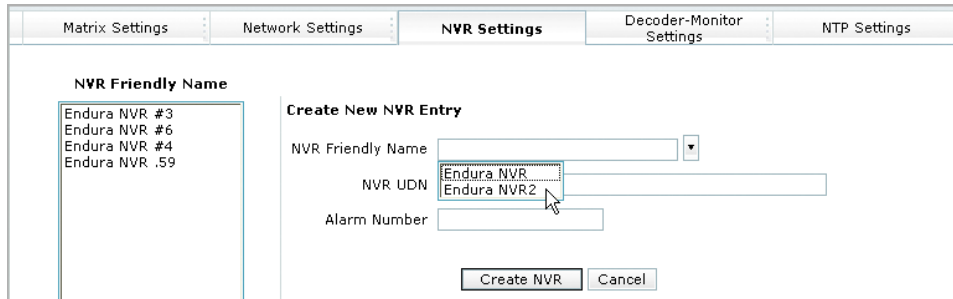

Figure 27. Adding a DVR/NVR Entry to the EDI5000 Configuration
1. Click the NVR Friendly Name box to see a list of available recording devices in the Endura system (refer to Figure 27).
The Decoder-Monitor Friendly Name section contains a list of Endura decoding devices that have already been added to the EDI5000 configuration. Use the Editing Decoder Monitor Info section to edit these devices (refer to Figure 27 on page 27).